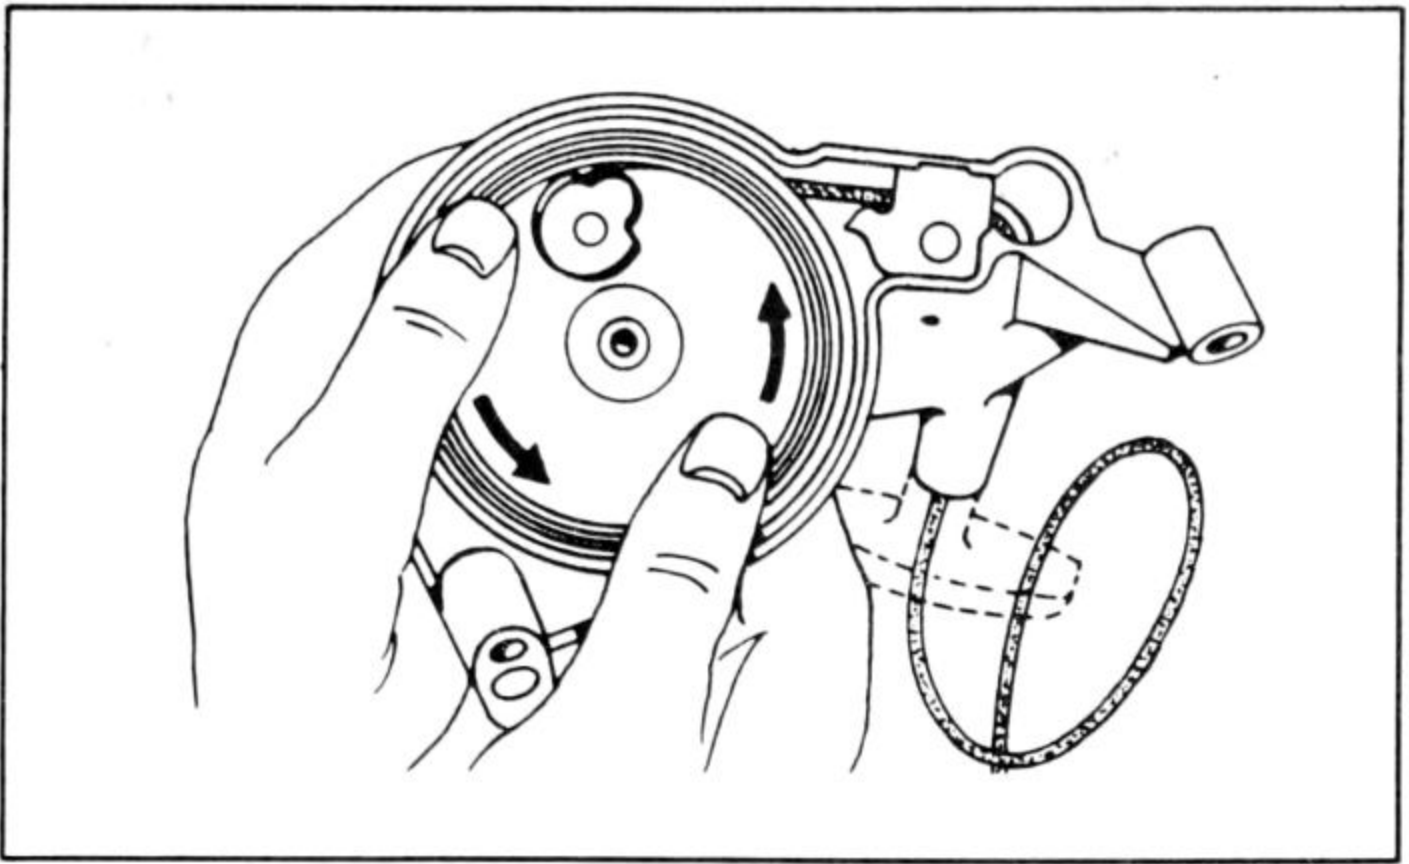

Fig. 4-28. The rope winds counterclockwise on the sheave, and then the spring anchor and anchor bolt are installed.
7. Rotate the sheave counterclockwise, winding the rope over sheave (Fig. 4-28).